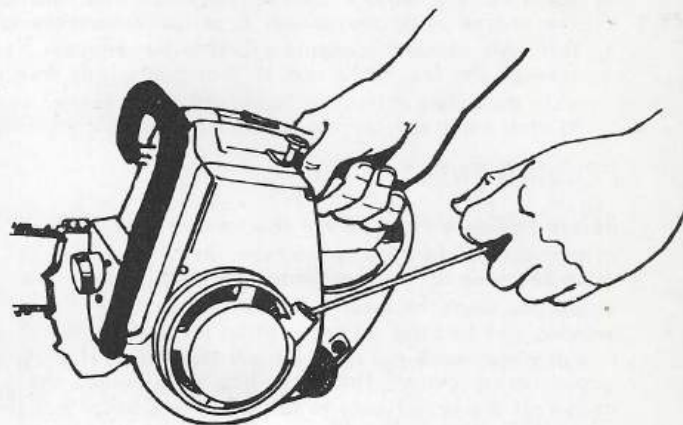

FIG. 6
7. Figure 6 illustrates the best method for starting the saw. With the right hand, grasp the rear handle of the saw, squeeze the trigger (throttle lever) with your index finger. With the left hand, firmly grasp the starter handle. Pull starter handle rapidly to start saw. Usually 4 or 5 rapid pulls are necessary before saw will fire, then push choke back to mid position and pull again. When engine starts move choke to off position (rear).